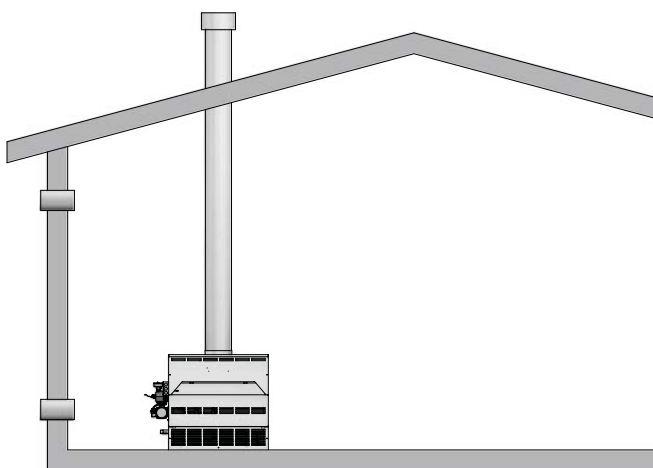

Figure 1-3_Combustion Air Direct from Outside
1. If air is taken directly from outside the building with no duct, provide two permanent openings (see FIG. 1-3):